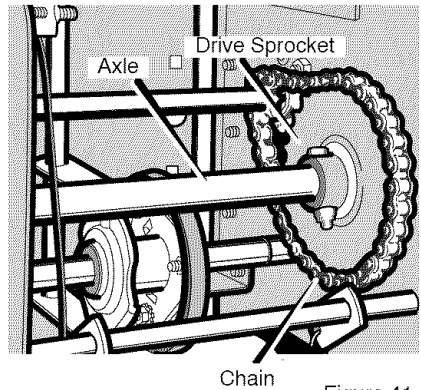

Figure 41
7. Remove the fasteners that secure the **drive sprocket** to the **axle** (see Figure 41).
16. Install the left wheel, **axle**, and **drive sprocket** with the fasteners removed earlier. Install the **chain** onto the **drive sprocket** (see Figure 41).